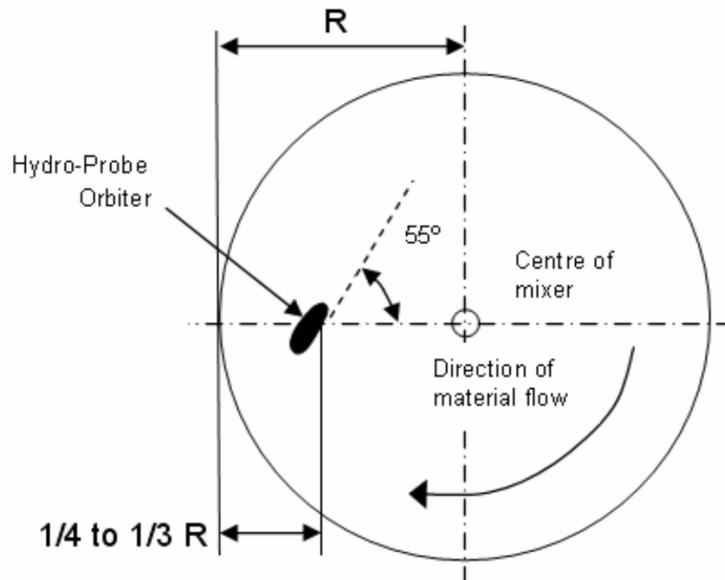
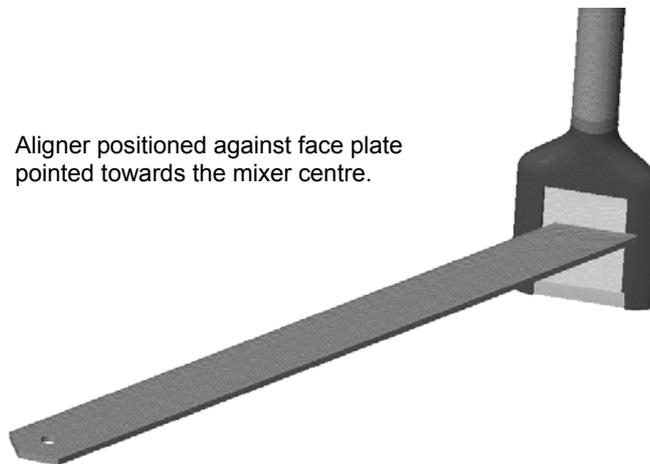

Figure 10 - Setting the sensor angle for optimum performance
Figure 11 - The Hydronix angle aligner for sensor face alignment
- As a general rule, the sensor should be attached along the scraper blade arm approximately 1/4 to 1/3 of the distance in from the wall of the mixer (see Figure 10). The faceplate of the sensing head should be angled at 55° to the centre of the mixer, which must be set using the aligner provided (see Figure 11 for further information).
- An angle of 55° generally provides good results. Use the angle aligner provided to set the angle (Figure 11).